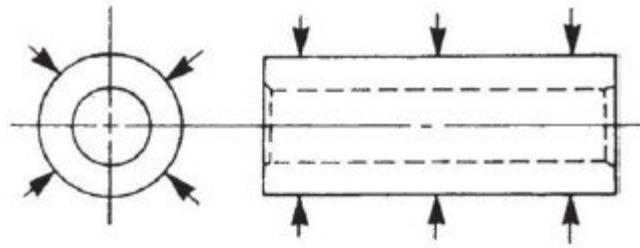

Figure 108.
5. Subtract the piston measurement from the greatest measurement acquired during cylinder inspection to obtain piston-to-cylinder clearance. Record the Measurement. Measure the diameter of the piston pin bore on both sides of the piston (Figure 108). See the *Mechanical Specifications Chart*. Record the measurements.